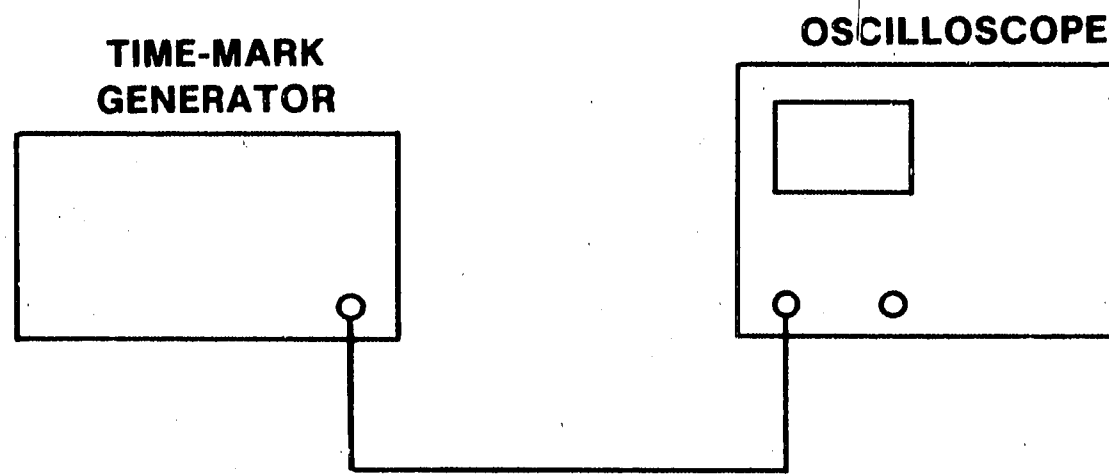

Figure 4-7. Delay Jitter Test Setup
- a. Connect equipment as shown in figure 4-7.